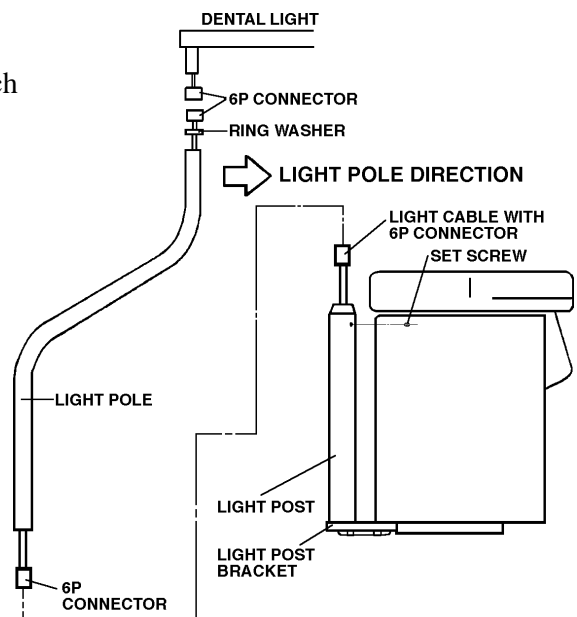

Fig.4-3 Mounting Operating Light
3. Mounting the Operating Light (Chair Mount Type Light Fig.4-3)
- (1) Fix light post bracket and light post to cuspidor unit with cap bolts and run through light cable.
- (2) Holding 6P connector on the top of light pole, then attach the ring washer on the top of light pole. Connect the 6P connector with the other one from operating light and fasten the connector with cable tie then mount dental light to light pole.
- (3) Connect 6P connector on the bottom of light pole to 6P connector on the top of light post. Then mount the light pole to light post and fix 2 set screws on light post. Confirm the direction of light pole that is shown in Fig.4-3.